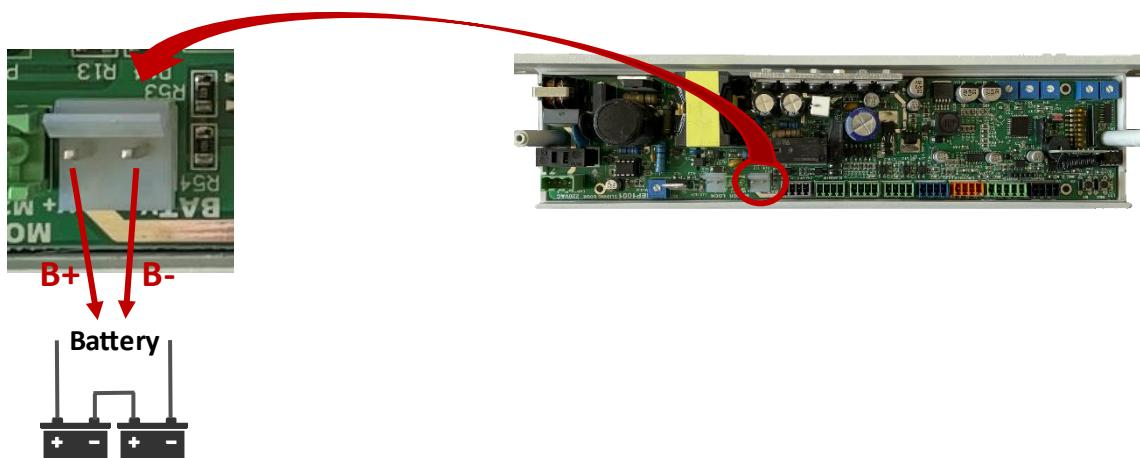

Figure 8: The position of the battery outputs on the card and a close-up view.
7) **Battery Output:** They are the 2 x 12VDC 2A battery outputs where two batteries can be connected in series. It is indicated in Figure 8.